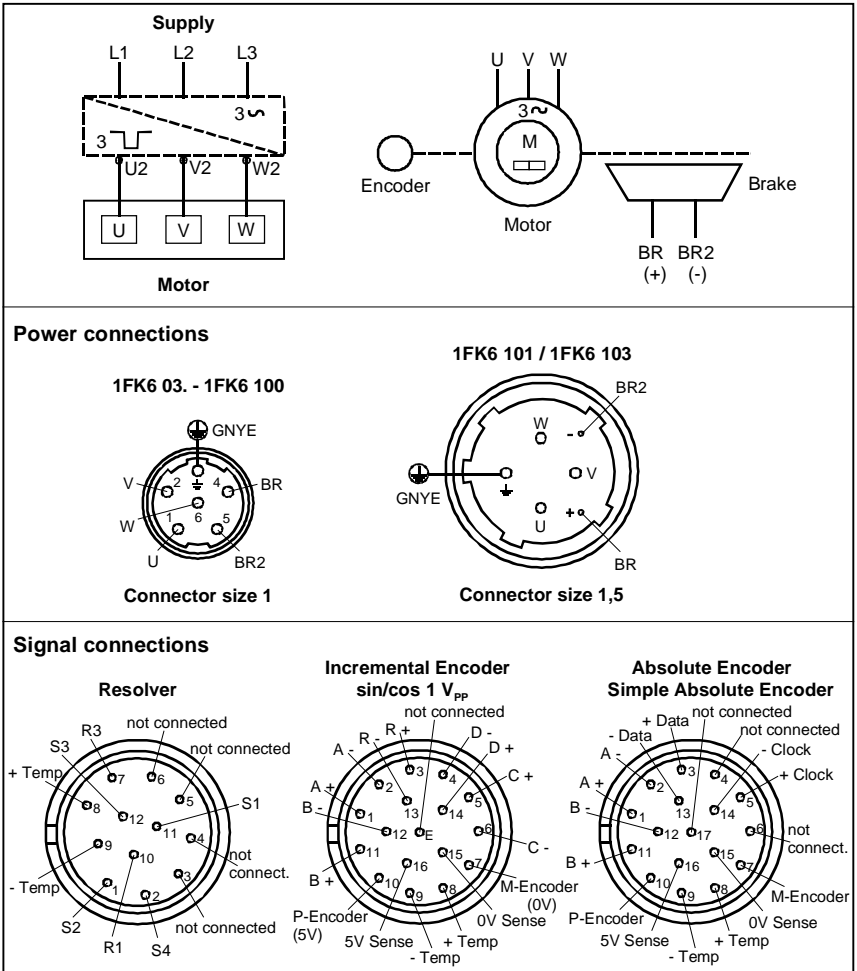

Fig. 5 Circuits
- Observe the data on the type plate (Section 3.1) and the information in the wiring diagrams (Fig. 5).
3. Connect the brake via Fig. 5 the power plug.
2. Assign the plugs according to Fig. 5.
Apply 24 V DC $\pm 10\%$ to the pins BR, BR2 (Fig. 5), and ensure that the rotor is running freely (no rubbing noises).